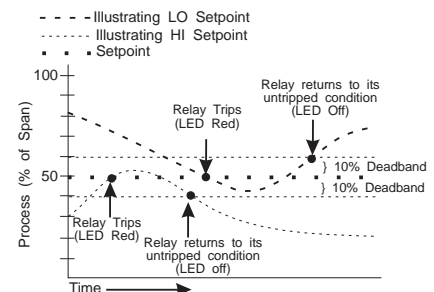

Figure 1: Limit alarm operation and effect of deadband(s)
Normal deadband is the amount of input change required to reset the limit alarm to an untripped condition, measured from the point of trip, and expressed as a percentage of the input span. Single and Dual trip limit alarms have adjustable deadband(s) from 0.25% to 100% of span and are normally set at 0.25% (see figure 1).
- X** LO or LO/LO Alarm (relay(s) trip when input falls below setpoint, see figure 1).